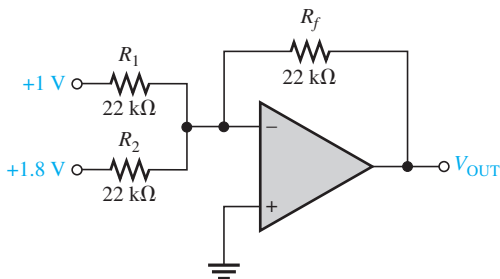

FIGURE 8-50
10. Refer to Figure 8-50. Determine the following:
11. Find the value of R_f necessary to produce an output that is five times the sum of the inputs in Figure 8-50.